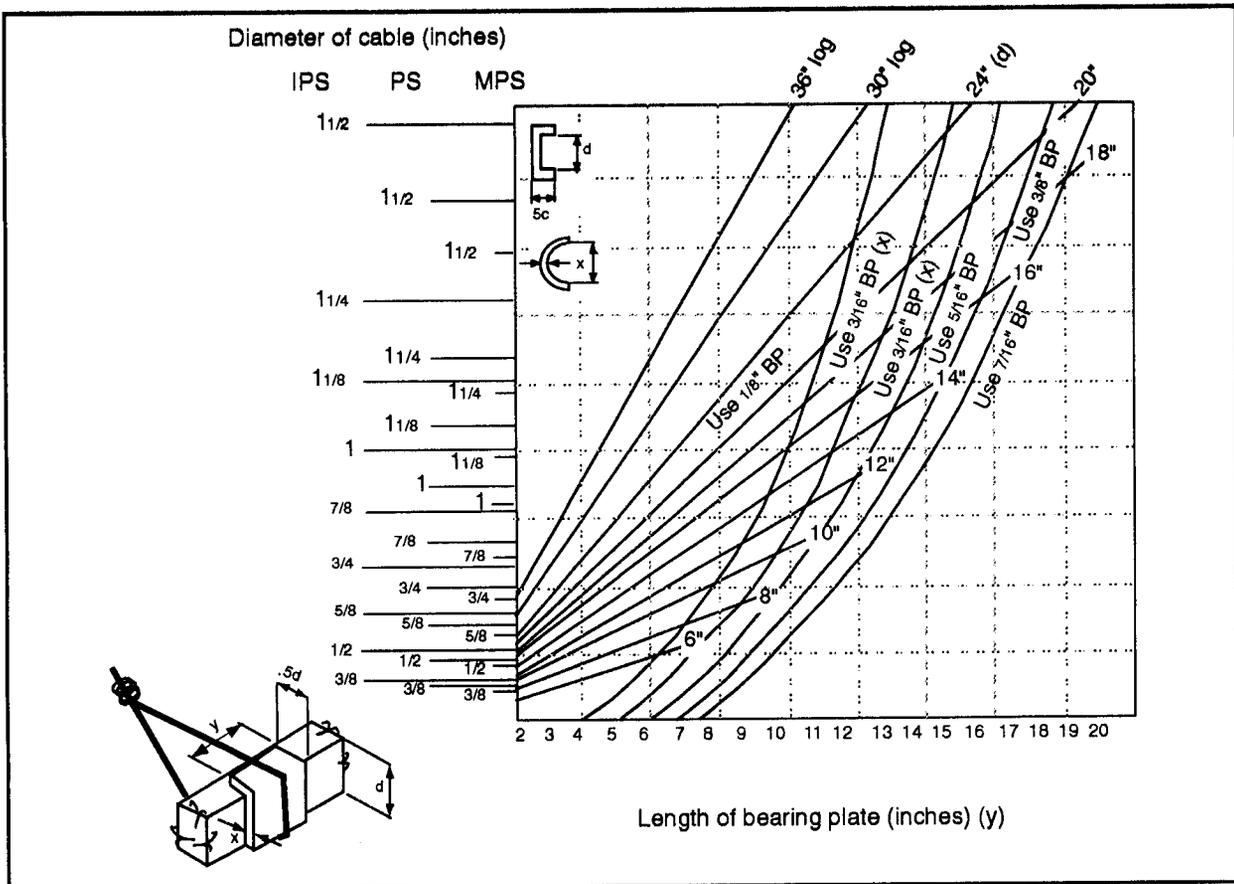

Figure 4-17. Designing a formed bearing plate
extends the depth of the timber with an extended portion at the top and the bottom (see *Figure 4-17*). Each extended portion should be half the depth of the timber.
- Solution: Design a formed bearing plate. Enter the graph on the left at 1 1/8 MPS and go horizontally across to intersect the 14-inch line (see *figure 4-17*). Note that the lines intersect in an area requiring a 1/4-inch plate. Drop vertically to the bottom of the graph to determine the length of the plate, which in this instance is 12
The bearing plate would therefore be 1/4 inch by 12 inches by 22 inches. For a rectangular timber, the width of the plate would be 14 inches for the face and 7 inches for the width of each leg, or a total width of 28 inches (see *Figure 4-17*). The bearing plate would therefore be 1/4 inch by 12 inches by 28 inches.